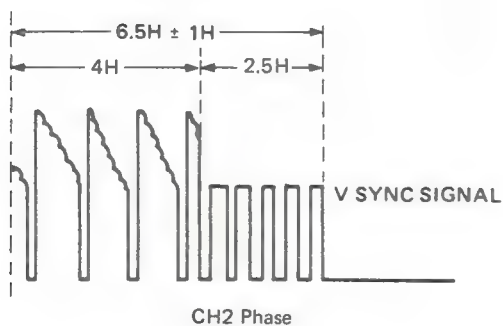

Figure 40
4. Set the synchronized slope on the oscilloscope to (+), and adjust R743 such that the trace is as shown in Figure 40. Next, set the synchronized slope to (-), and adjust R745 such that it is as shown in Figure 40.